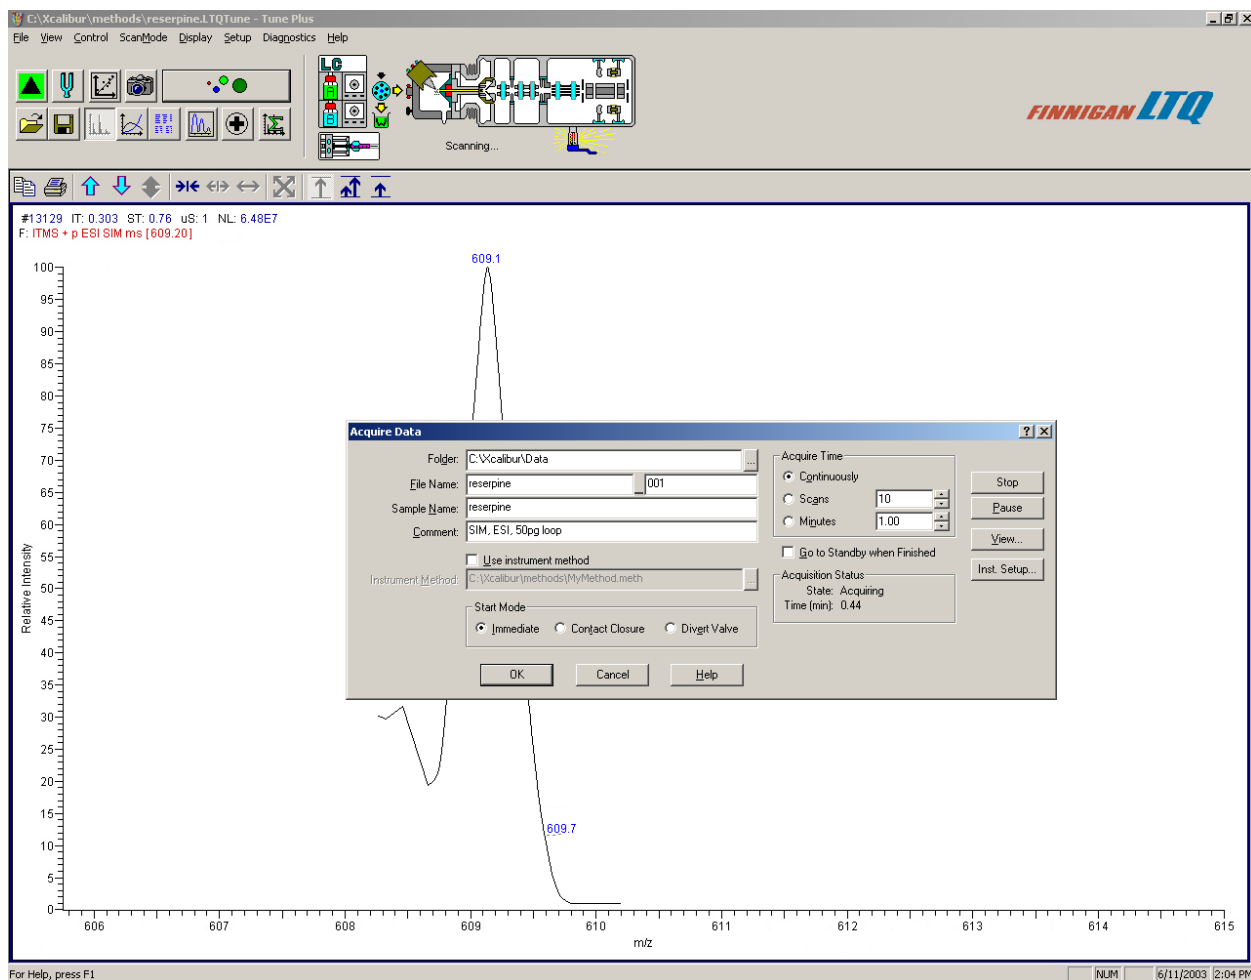

Figure 5-12. Tune Plus window, showing the SIM spectrum of reserpine during analysis by loop injection
12. Observe the reserpine peak (m/z 609.2), or that of your analyte of interest, in the Spectrum view. See Figure 5-12. Wait about 1 min before you inject again (step 13.b, below).